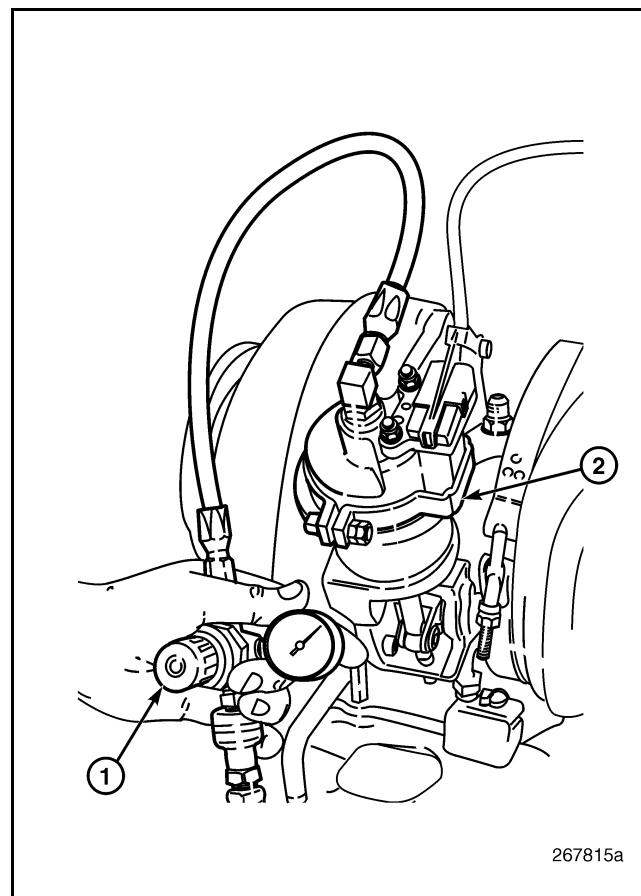

Figure 529 — Air Pressure Application
5. Connect a regulated shop air supply (with a pressure gauge) to the air fitting at the top of the actuator assembly (Figure 529) and apply 40–60 psi of air pressure to extend the actuator rod downward.